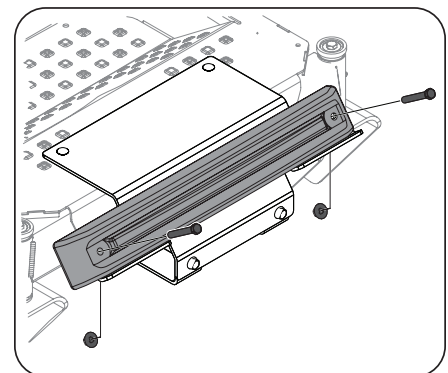

Figure 4-22
7. Place counterweight (719-04271A) on the bracket (703-11046) and align with tabs. Secure counterweight with 2 hex head capscrews (710-0859) and 2 flange-lock nuts (712-04217). See Figure 4-22.